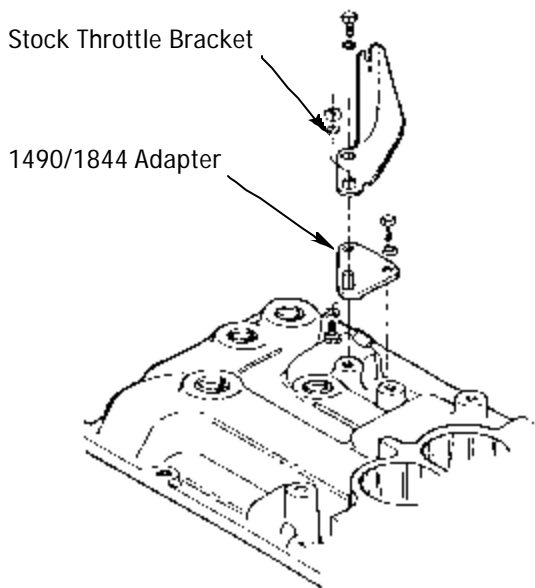

Figure 1 - 1490/1844 Throttle Plate
- THROTTLE BRACKETS: Due to the design of Performer manifolds, the throttle and kickdown bracket on some vehicles may require modification to fit. When using Edelbrock carburetors, use #1490 or 1845 throttle plate kit. See Figure 1.